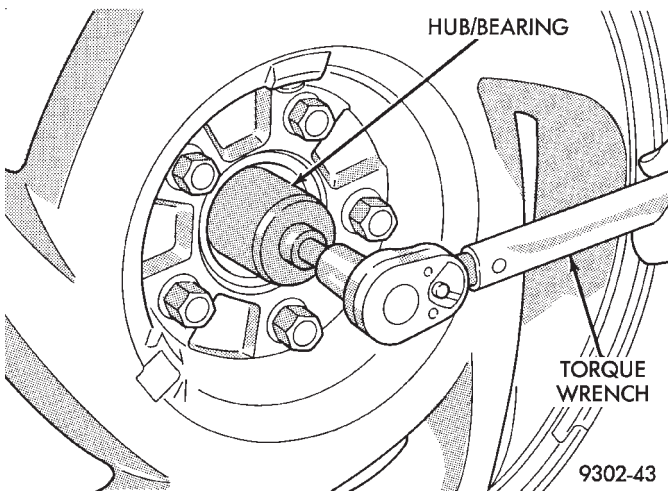

Fig. 27 Torquing Hub And Bearing Retaining Nut
(12) Apply the brakes to keep the vehicle from moving, then tighten the **NEW** stub axle retaining nut to a torque of 163 N·m $\pm$ 14 N·m (120 ft. lbs. $\pm$ 10 ft. lbs.) (Fig. 27).